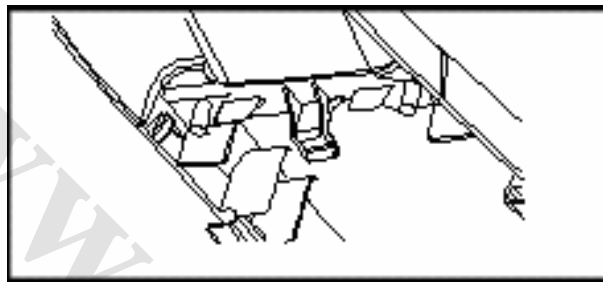

Fig. 7-28
(1) The front and rear linings of the ventral shield are fixed on the body through 4 places (A in the Fig.) and 3 places (B in the Fig.) respectively. During the installation, fix the buckles in the buckle holes directly and then install the roof. After that, the A, B, C pillar guard panels can be installed.
(2) Fix the buckle on the buckle installing bracket (Total: 2) of the A pillar upper guard panel. First put the front small buckle foot into the corresponding installing holes on the dash board, the two buckles into the buckle holes of the A pillar metal sheet so that the A pillar upper guard panel can be fixed.
(3) Firm the inner felt pad of the C pillar upper guard panel and five fixing buckles on the C pillar upper guard panel. First put the rear side small buckle foot into the metal sheet hole of the C pillar and five buckles into the buckle hole of the C pillar metal sheet so that the C pillar upper guard panel can be firmed.
(4) Make the small buckle foot on the lower part of the B pillar upper guard panel into the metal sheet hole of the B pillar and press the buckle on the upper side into the corresponding round holes of the B pillar so that the B pillar can be fixed, as shown in Fig. 7-28.